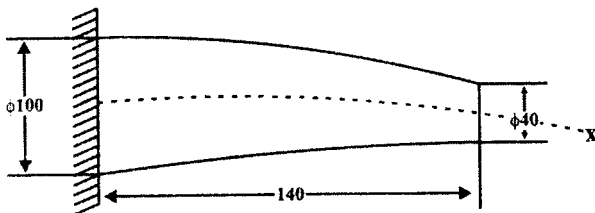

Fig. 2
12. A tapering round bar is fixed at one end and a tensile load of 1000 N is applied at the other end as shown in fig. 2. Take elastic modulus, $E = 2 \times 10^5 \text{ MPa}$. Find the global stiffness matrix and displacements considering its as 4 elements.